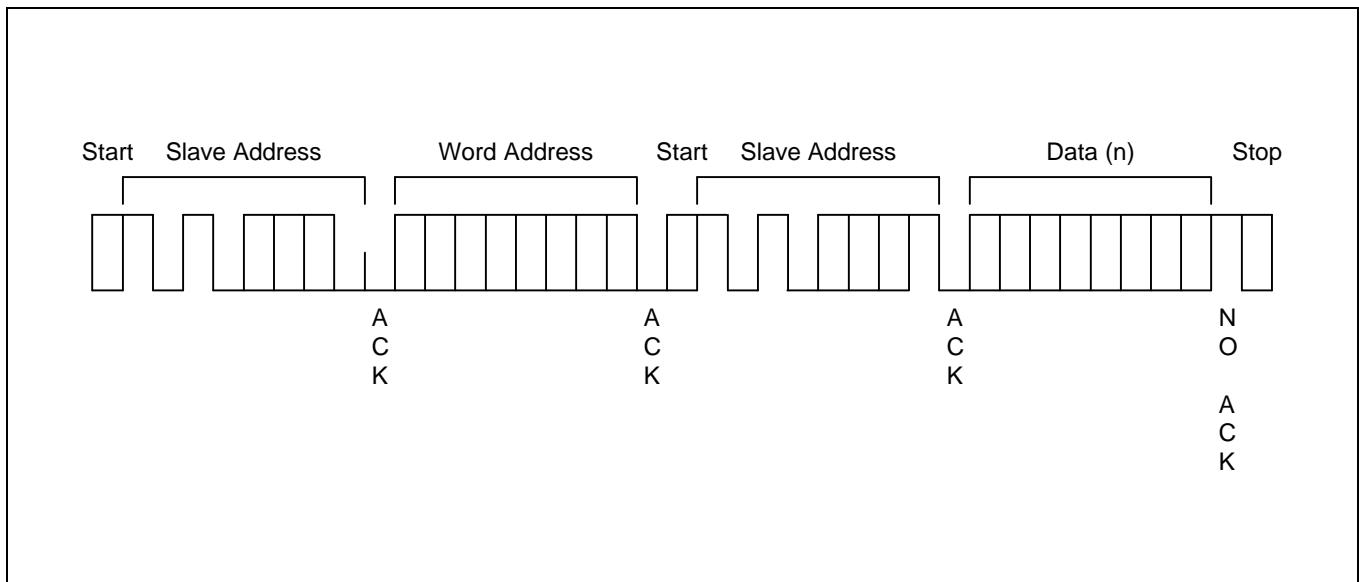

Figure 3-13. Random Address Byte Read Operation
5. In response, the TMC 24A01/24A02/24A04/24A08/24A16 stops transmitting data and reverts to its stand-by mode (see Figure 3-13).